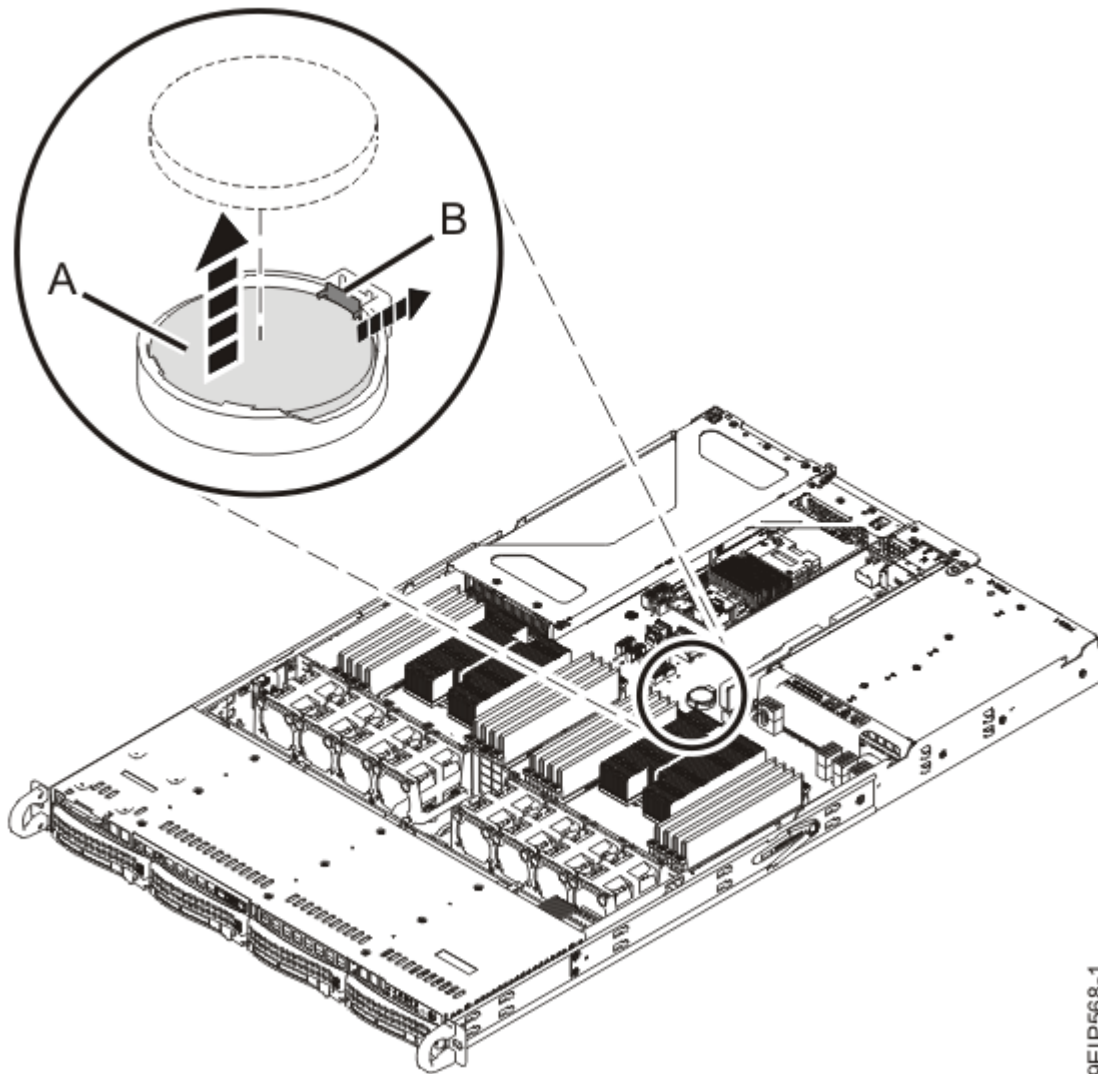

Figure 69. Removing the time-of-day battery
3. Remove the time-of-day battery **(A)** by pushing the tab **(B)** away from the battery as shown in Figure 69 on page 76.